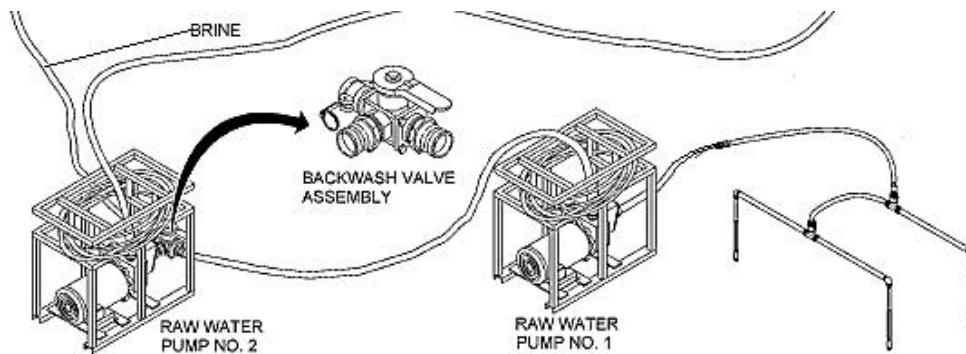

Figure 1-38. Ocean intake structure.
The ocean intake structure is used in place of the strainer and float. Refer to figure 1-38 during set-up procedures.
**NOTE:** During initial installation, one of the two wellpoints is used for source water when jetting the other wellpoint. The wellpoint used for source water may either be laid flat on the ocean floor (beach) or attached to a vertical metal stake while jetting operation is conducted. Make sure that the source wellpoint, whether laid flat or attached to stakes, is completely submerged. Refer to figure 1-38.